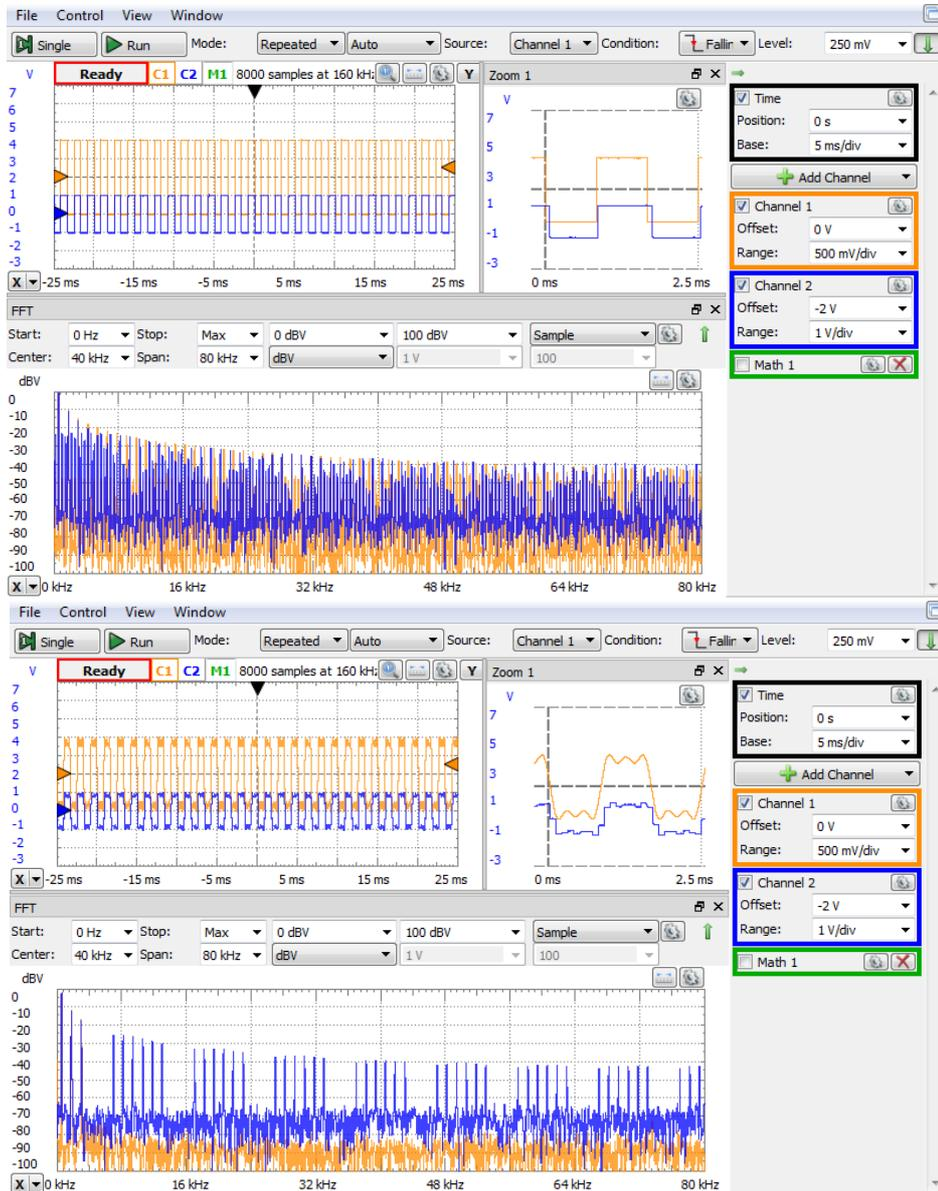

Figure 1.14 0-degree interpolated rectangular (up) and filtered (down) signal
- b. With 0-degree interpolation (Figure 1.14) – real “sample-and-hold, closer to real reconstruction of the samples. The V_{SH} signal repeats V_{in} for $10\mu\text{s}$, then keeps the last value for the next $90\mu\text{s}$. Scope channel 1 probes V_{in} , channel 2 probes V_{SH} , the sampled (and interpolated) signal.
1. Rectangular – As defined for WaveGen1 (up in both Figure 1.13 and Figure 1.14).
2. Filtered rectangular, as defined for WaveGen2 (down in both Figure 1.13 and Figure 1.14).